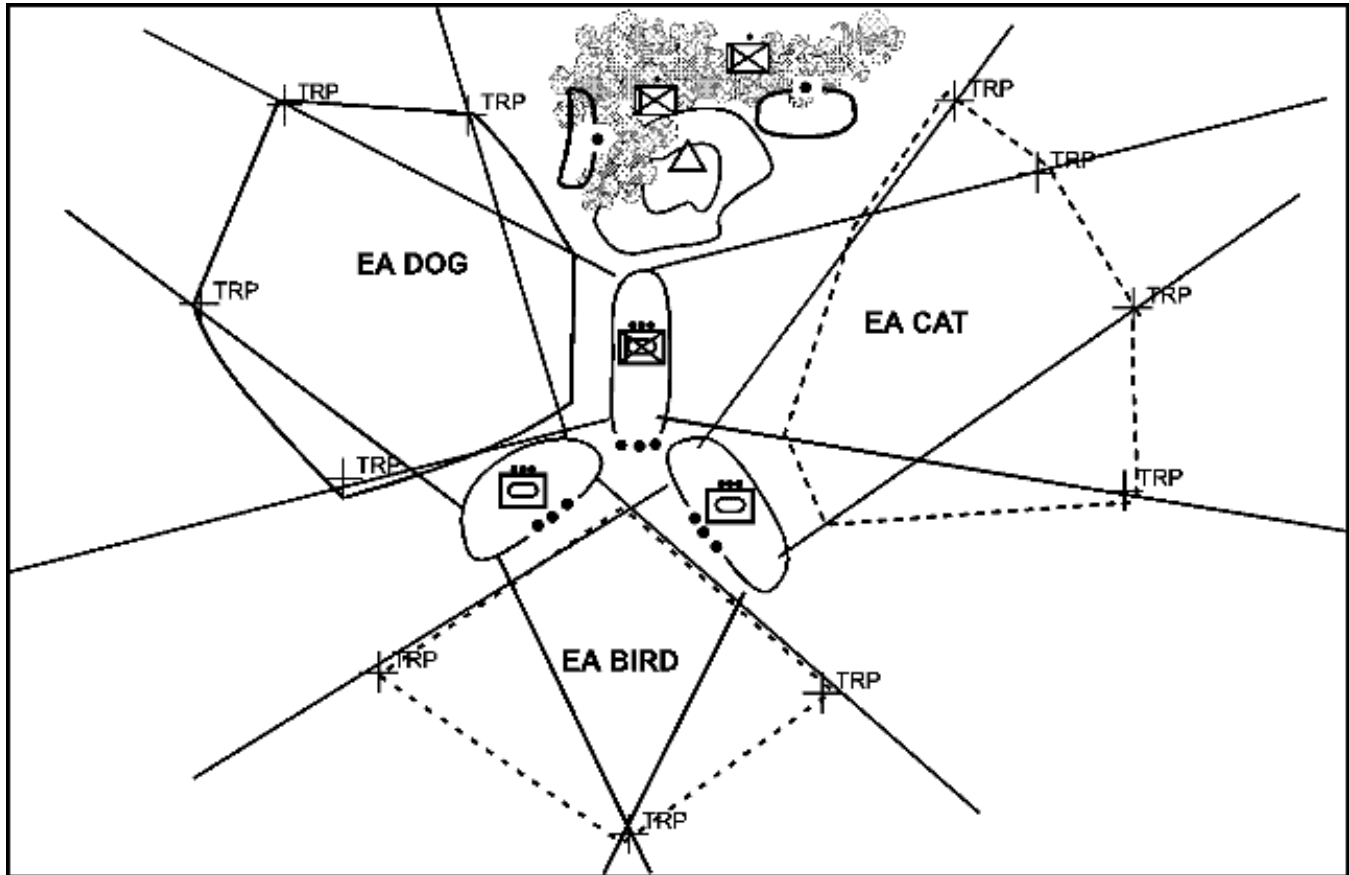

Figure 4-15. "Y"-shaped perimeter defense.
**NOTE:** A variant of the perimeter defense is the use of the "Y"-shaped defense, which allows two of the team's platoons to orient at any particular time on any of three engagement areas. Refer to Figure 4-15.